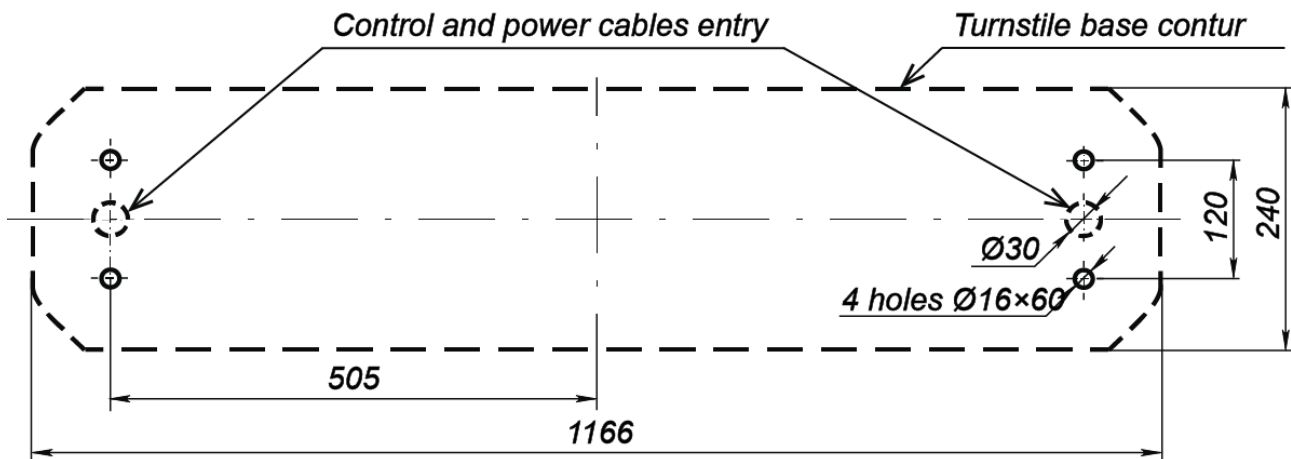

Figure 14 – TTD-08A turnstile housing installation layout
- to mark the mounting holes according to Fig. 14;
3. Drill the holes for anchor bolt sleeves to fix the turnstile housing (Ref. Fig. 14).